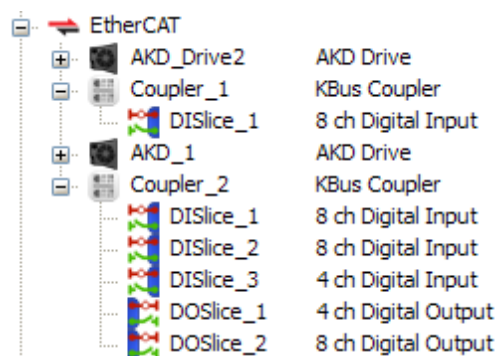

Figure 4-14: EtherCAT Network - Logical View
- Map them to items in the EtherCAT node of the Project Explorer (see "Figure 4-14: EtherCAT Network - Logical View " on page 166)